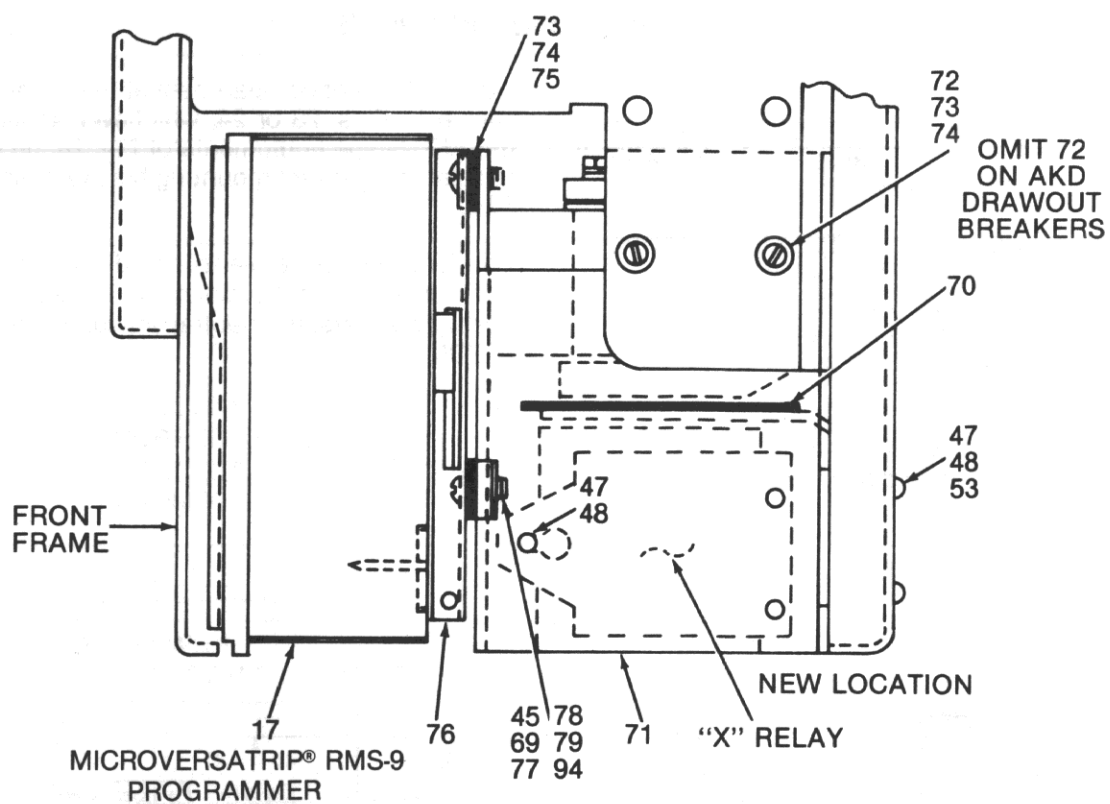
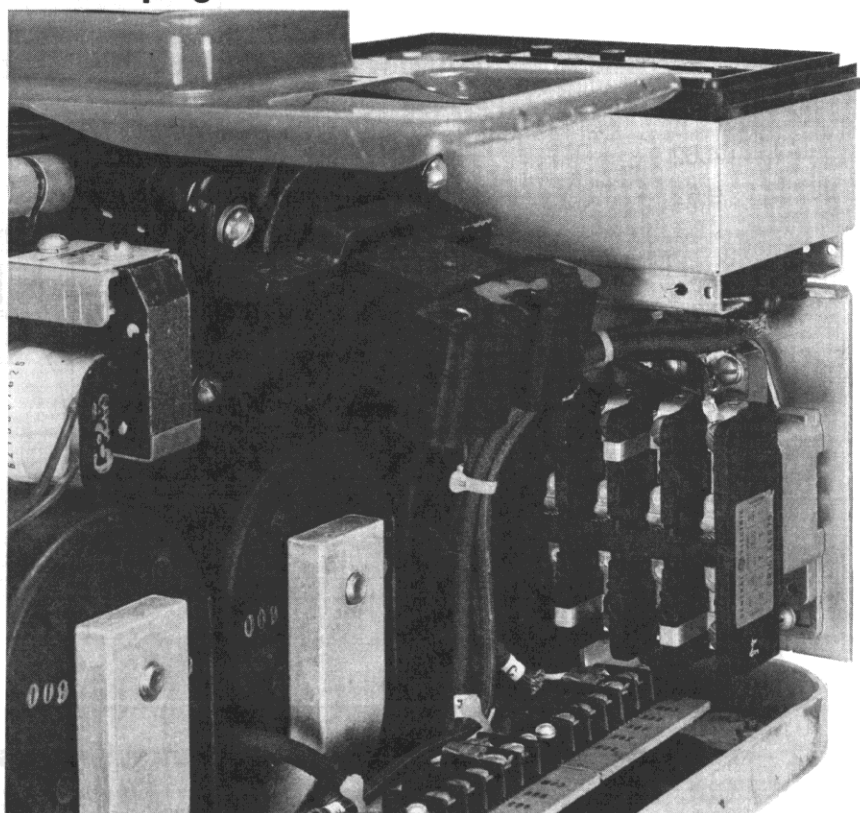

Fig. 20 — Right side view of breaker showing mounting of programmer unit.
Fig. 21 — X Relay location with harness routing.
5. Mount insulator bracket 70 to the lower right corner of the back frame utilizing existing holes — See Fig. 20.
9. On electrical breakers, remove "x" relay and mounting bracket from front frame. Assemble programmer shock mount bracket (76) to programmer support bracket (71) per Fig. 20. Mount "x" relay on bracket using (3) #10 screws and lock washers provided. Modify the "x" relay harness by adding 16 Ga. extension wire, splices, and ring terminals provided. Work one wire at a time to prevent wiring errors. Route wires as shown in Fig. 21, making certain they do not interfere with solenoid plunger or programmer. Install bracket assembly per Fig. 20.